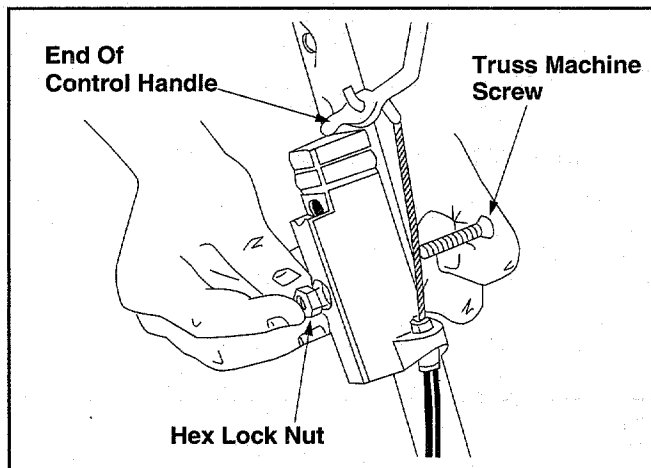

Figure 4
- Remove the truss machine screw and hex lock nut from the middle of the control box. Place your finger over the hex lock nut to hold it inside the control box so you can unscrew the truss machine screw. See Figure 4.